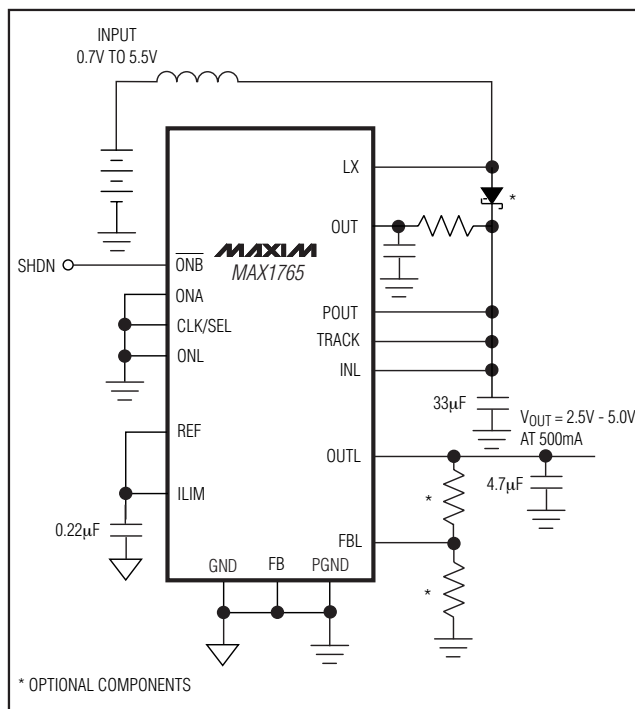

Figure 3. Simple Step-Up/Step-Down Converter
Asserting the TRACK input places the MAX1765 into track mode, where the DC-DC switching regulator's feedback pin (FB) is ignored, and the boost output (POUT) "tracks" to 500mV above the linear regulator output. The primary use of the MAX1765 in TRACK mode is as a simple or very-low-noise step-up/down power supply (see Figures 3 and 4; also see the Maximum Output Current vs. Input Voltage plot in the *Typical Operating Characteristics*.)